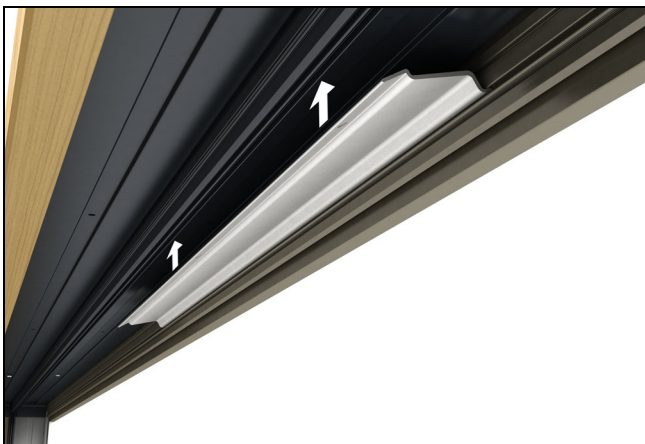

Figure 145
5. Rotate in one structural bracket with pre-drilled holes and install with three #8 x 3" black installation screws. See figure 145.